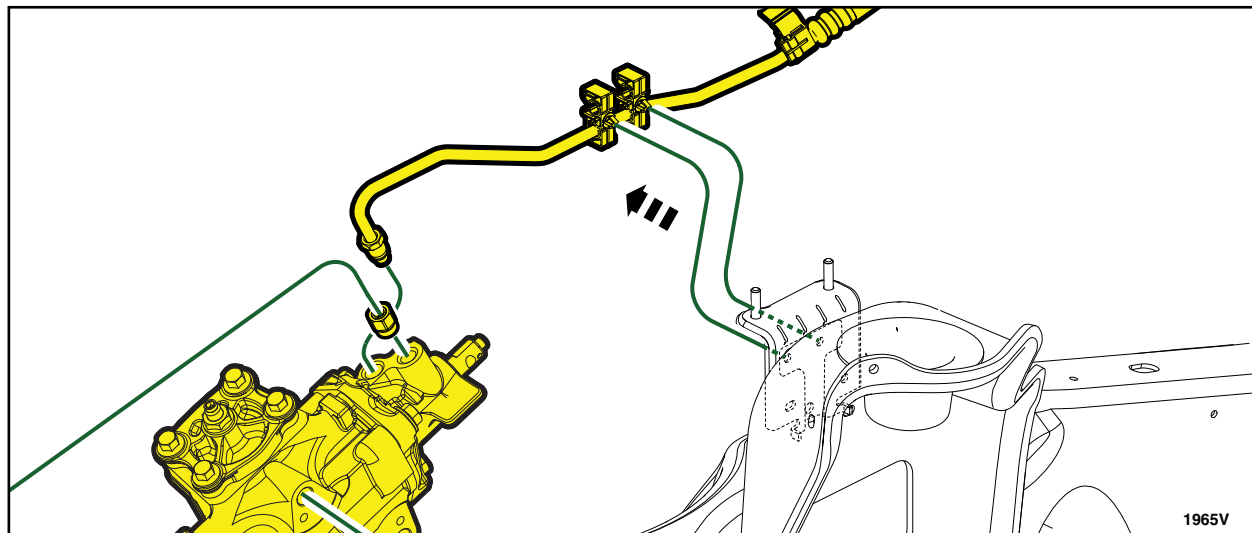

FIGURE 23
3. Release the retaining clip on the inboard strut tower and near the Hydro-Boost junction. See Figure 23.